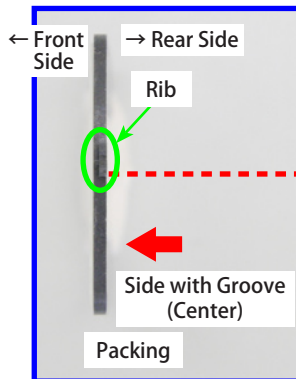

Fig. 028 Orientation of the Rib
- Looking at the packing from the side, check to see which side the rib is on. Then install the Flash Panel Ass'y so that the grooves face the same direction as the rib. (Fig. 028)